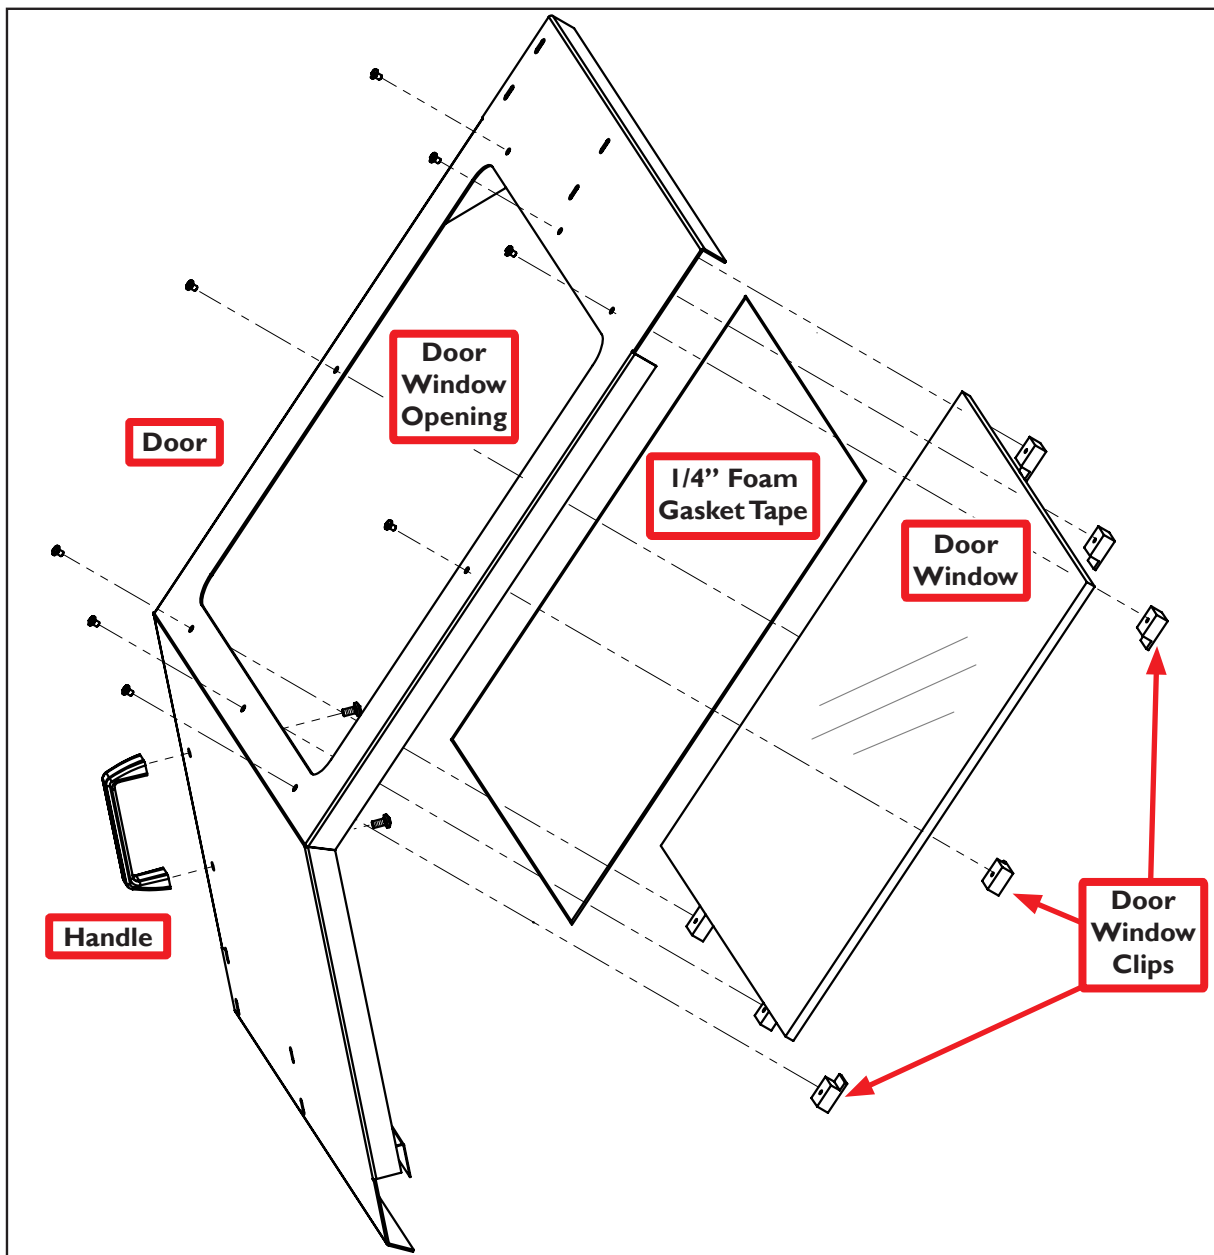

Figure 10
10. Measure, cut and adhere 1/4" Foam Gasket Tape to form a seal around the inside of the Door Window Opening; peel off backing and adhere to Door (see **Figure 10**).
11. Attach Door Window to Door using eight Door Window Clips with eight 10-32 × 3/8" Pan Head Screws (see **Figure 10**); attach Door Handle using two 5/16" × 3/4" Pan Head Screws. Set door aside for later installation.